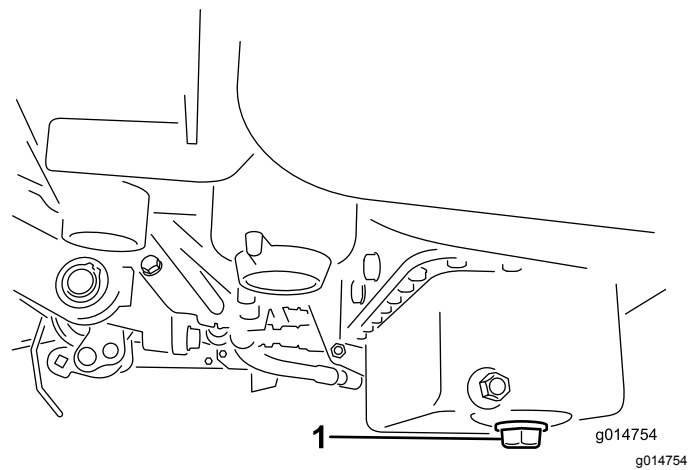

Figure 26
1. Remove the drain plug and let oil flow into a drain pan. When the oil stops, install the drain plug (Figure 26).